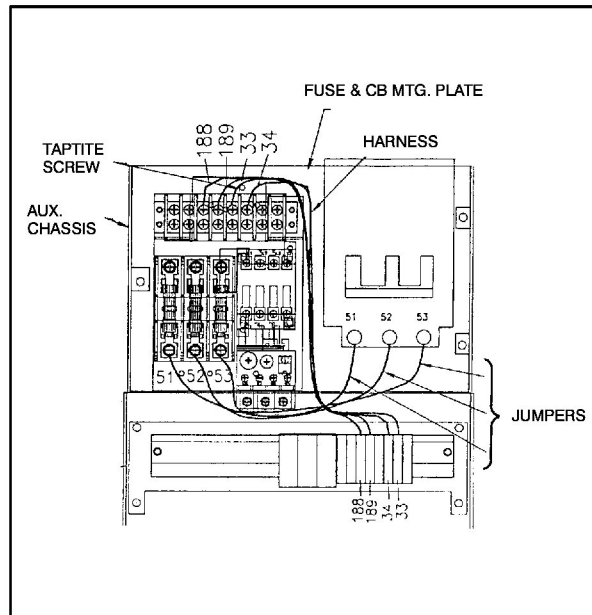

Figure 3 – MinPak Plus with Blower Motor Starter Kit
- Front location to left of circuit breaker on the auxiliary chassis circuit breaker mounting plate (Figure 3).
- Front location — (Figures 3 & 4)
hand side for FlexPak Plus. (Reference Figures 3 & 4).
5. Connect wire harness to terminal board on Blower Motor Starter Kit. (188, 189, 33 & 34) Route wire as shown in Figure 3 & 4. Connect other side of harness to terminal board on controller power module (188, 189, 33 & 34).